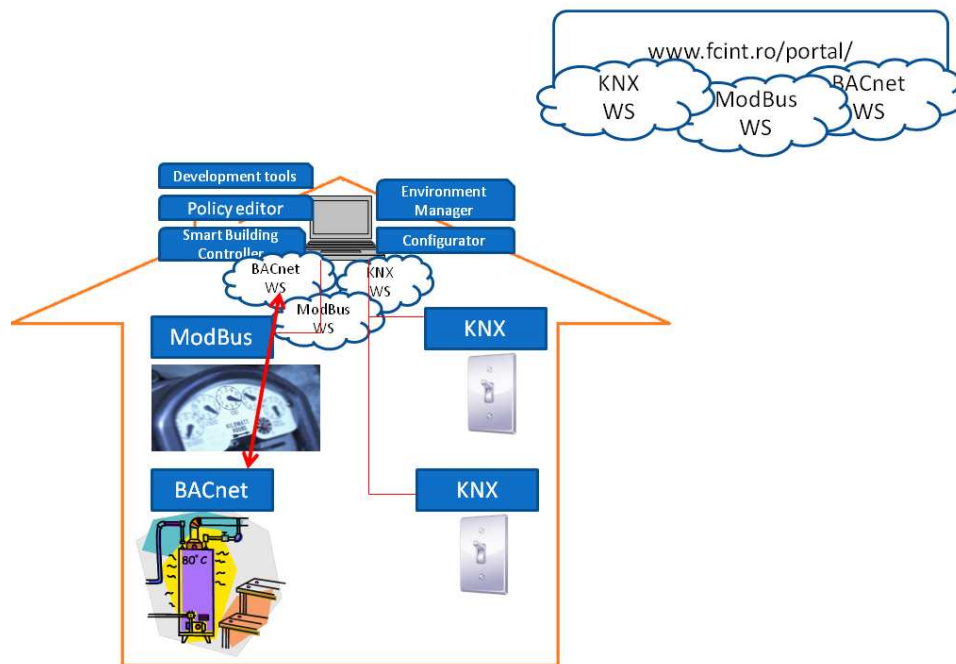

Figure 4. Device discovery and installation in the FCINT Smart Building Controller
- The user make the connections between devices and the related web services, then devices are discovered and installed into the Smart Building Controller (figure 4);